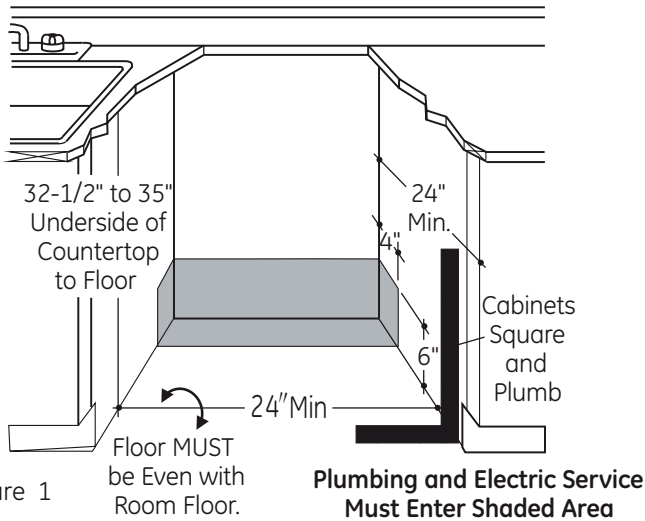

Figure 1
- Drill a 1-1/2" dia. hole in the cabinet wall within the shaded areas shown in Figure 1 for the drain hose connection. The hole should be smooth with no sharp edges.